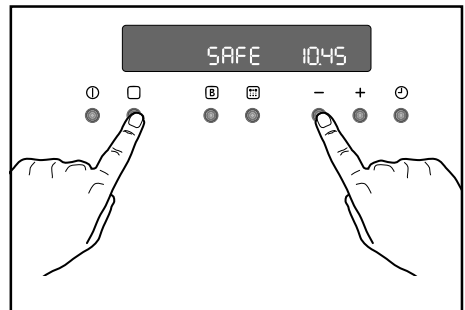

Fig. 13
1. Press buttons  and  at the same time and keep them pressed for about 3 seconds. An acoustic signal will be emitted and the indication 'SAFE' will appear on the display (Fig. 13).